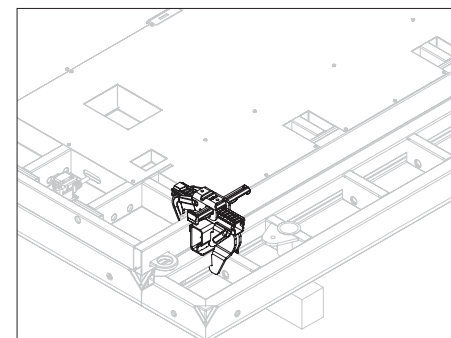

Fig. B1.10
3. Connect the Heated Formwork Panel MXH and Panel MX 30 to the frame strut and Adapter Connector MXH using the Alignment Coupler BFD (30). (Fig. B1.10)